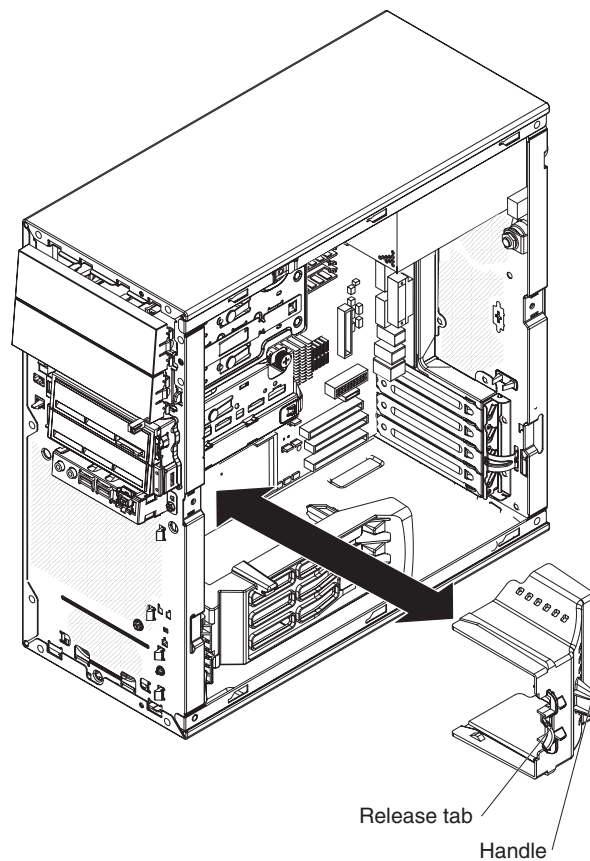

Figure 16. Removing the air baffle
6. Press the air-baffle release tab toward the handle and pull on the handle to remove the air baffle from the computer (see Figure 16).